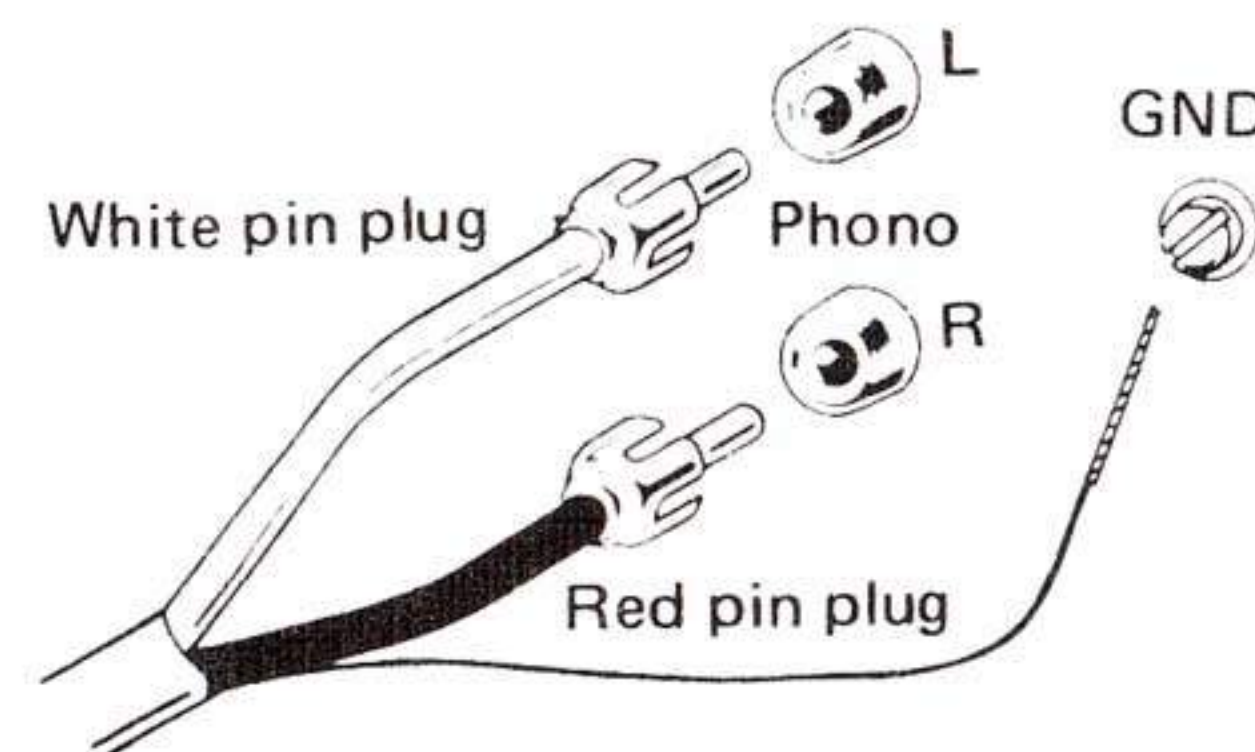

Fig. 6
2. Connect red pin-plug of the output leads to the right jack of the PHONO terminal of the amplifier. (Fig. 6)